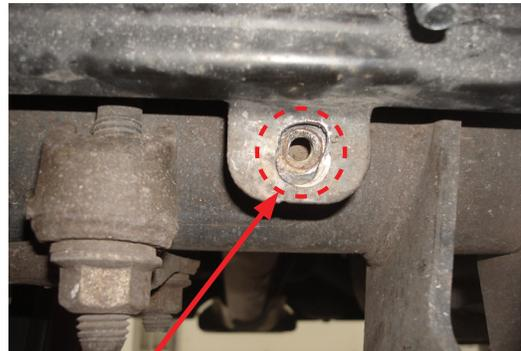

Fig. 23
1. If the holes in the cover are slightly misaligned with the threaded holes on the axle, file or die grind slots in the existing bracket holes (Fig. 23) to get the holes to line up enough to reinstall the screws (Fig. 24).